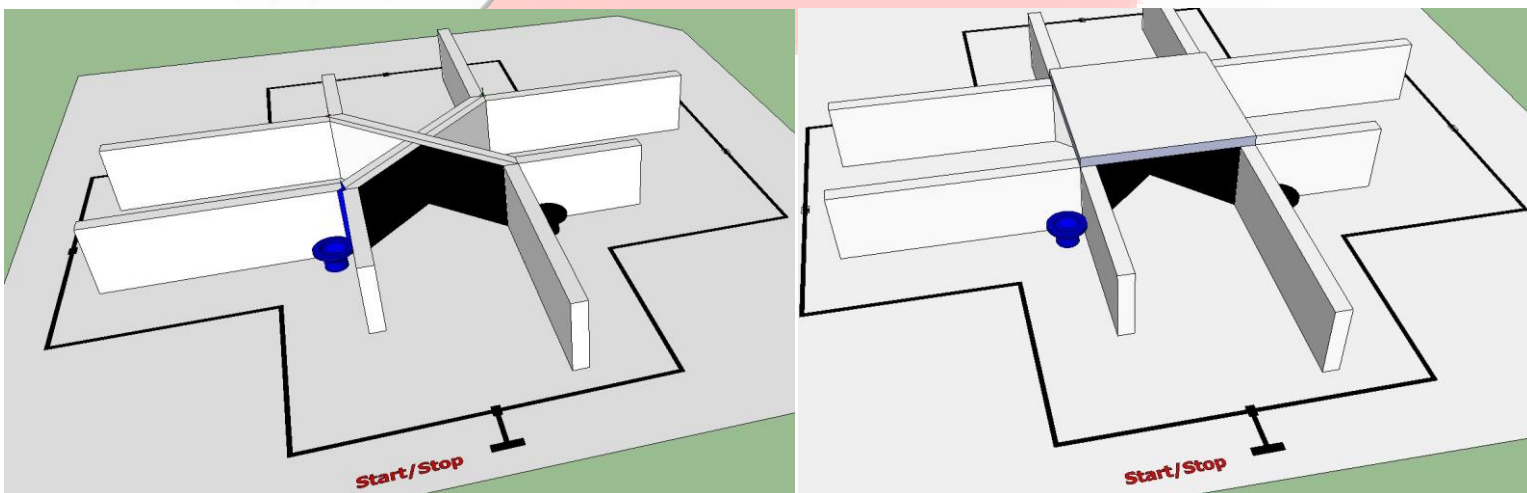

Figure 8: Central Walls without Ceiling and with Ceiling
- **Ceiling:** This is a slab which is fixed on top of the Central Walls. All the LED Arrays representing Gas Leakages are attached to the bottom of the Ceiling with one of the LED Array being a part of each Pipeline Area. Control circuits for these LED Arrays is attached to the roof of the Ceiling. Figure 8 displays the Ceiling of the Central Walls.